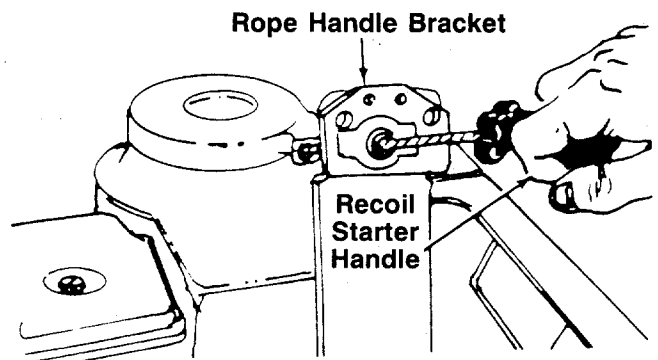

FIGURE 21.—Recoil Start Model
The recoil starter handle is located on the left rear side of rider. The recoil starter handle can be pulled while standing by the left rear side of unit. The ignition key must be on before the engine will start. After the engine starts, the recoil starter handle must be returned and locked into the rope handle bracket before the blade or clutch is engaged. The engine will stop if these instructions are not followed. See figures 21 and 22.
6. a. **Recoil Start Units:** Turn the ignition key to the ON position. Twist the recoil starter handle until it is free and pull it with a quick steady motion. After the engine starts, return the recoil starter handle and twist it until it locks. See figure 21.